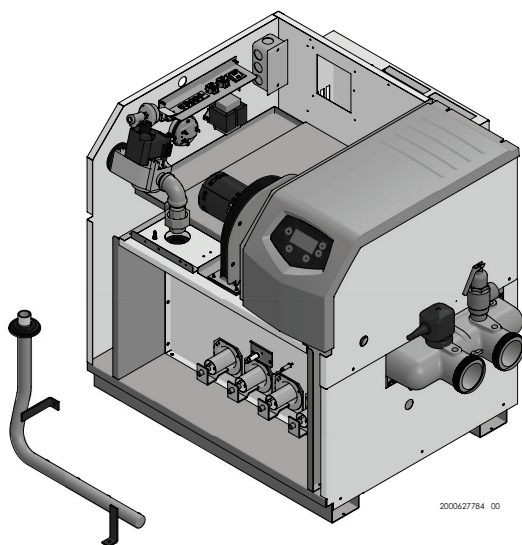

Figure 2-3_Gas Train Detached for Burner Removal
- e) Remove mounting screws from the manifold mounting brackets. Remove the manifold/orifice assembly from the burners (FIG. 2-3).